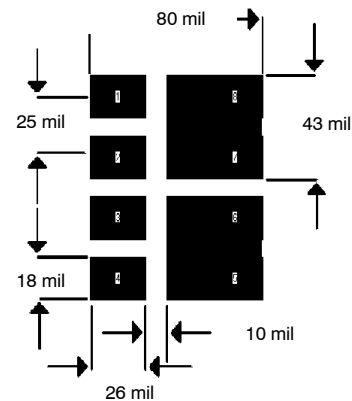
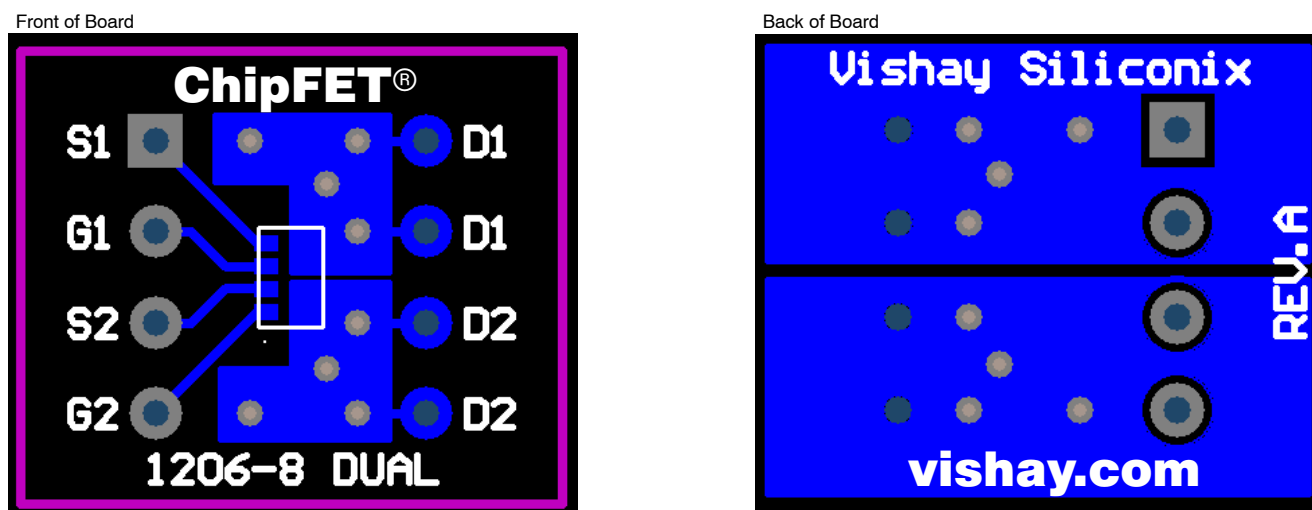

FIGURE 2. Footprint With Copper Spreading
FIGURE 3.
The pad pattern with copper spreading shown in Figure 2 improves the thermal area of the drain connections (pins 5 and 6, pins 7 and 8) while remaining within the confines of the basic footprint. The drain copper area is 0.0019 sq. in. or 1.22 sq. mm. This will assist the power dissipation path away from the device (through the copper leadframe) and into the board and exterior chassis (if applicable) for the dual device. The addition of a further copper area and/or the addition of vias to other board layers will enhance the performance still further. An example of this method is implemented on the Vishay Siliconix Evaluation Board described in the next section (Figure 3).
1) Minimum recommended pad pattern (see Figure 2) on the evaluation board size of 0.5 in x 0.6 in.	$185^{\circ}\text{C/W}$
2) The evaluation board with the pad pattern described on Figure 3.	$128^{\circ}\text{C/W}$